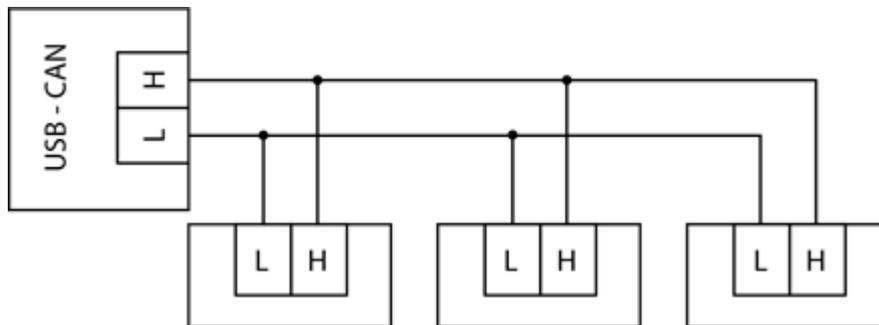
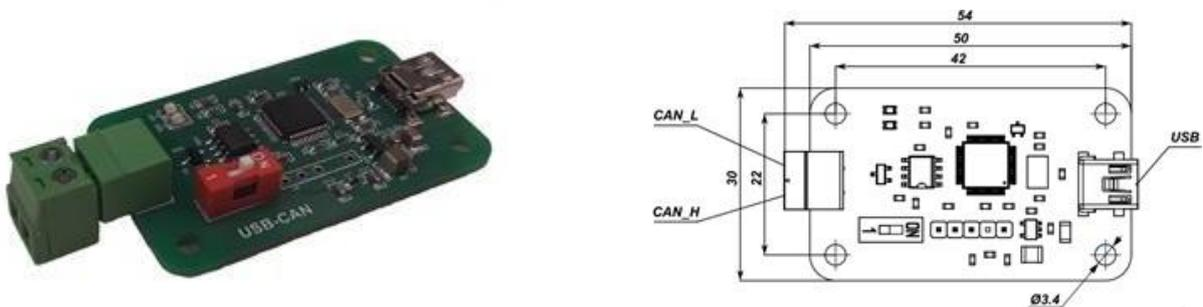

Figure 7: CAN interface connection scheme
Figure 8: USB-CAN hub
2. Connect up to 200 drivers into the CAN network (fig. 7) by using the CAN hub (fig. 8).